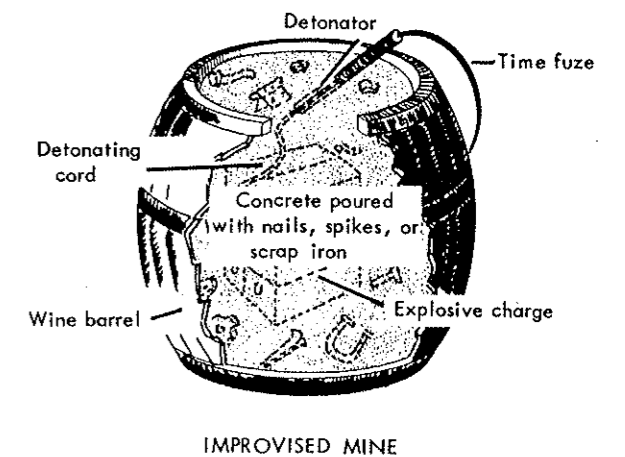

Figure 37.
5. Improvised mines (fig. 37) are used when issue mines are unsuitable or unavailable for a particular